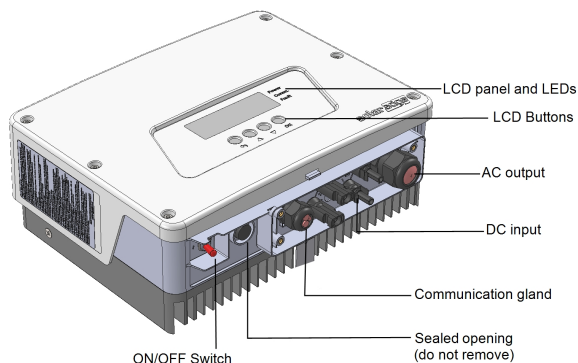

Figure 3: Inverter Interfaces
4. Open the AC cable gland and insert the cable through the gland (see *Figure 3*).